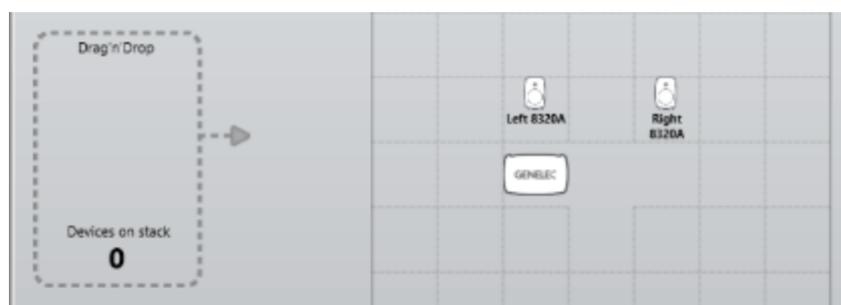

Figure 15. An example of an empty monitor stack
**Note:** monitors and subwoofers are automatically named by the location information, e.g. when the monitor is dropped on the left side, it is named as 'Left 8330A'. If a monitor has AES/EBU digital input it will also get a default AES/EBU subframe to be reproduced in the digital group, e.g. when the monitor is dropped to the left side, it gets subframe A selected as default. In the acoustic calibration the grid symmetry is used to define Left/Right monitor pairs for the equal room filter designs. The equal room filter design is possible when Left and Right monitors are placed symmetrically to the grid (see Figure 15) and checking the 'Each front Left-Right pair shares the same equalizer settings' box in the acoustic calibration page.